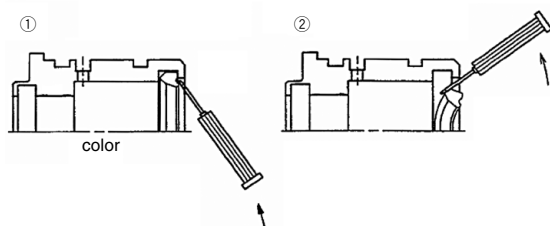

Fig. 4 Removing the cushion seal
- b. As shown in Fig.4, pull out the cushion seal by inserting the precision screwdriver from the back of the seal and the head cover. Take care not to damage the seal groove at this time.